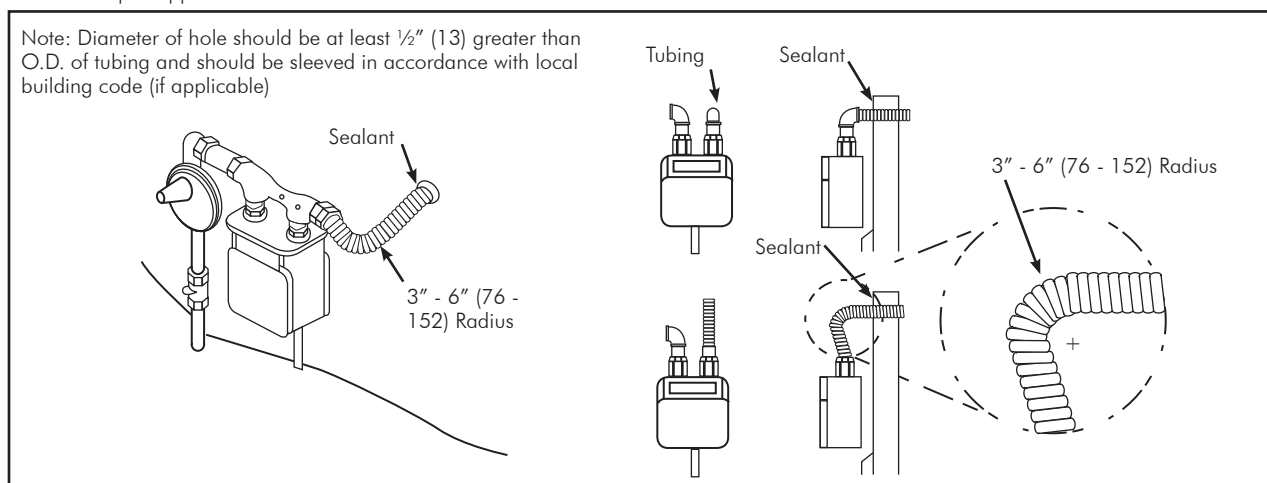

FIG. 4-19 Bracket Supported Meter
- Meters which are independently supported with a bracket can be directly connected outdoors with DIAMONDBACK™ as shown in **FIG 4-19**. If practical, direct connections shall include a 3" (76) to 6" (152) loop of tubing to accommodate differential settling and meter movement.